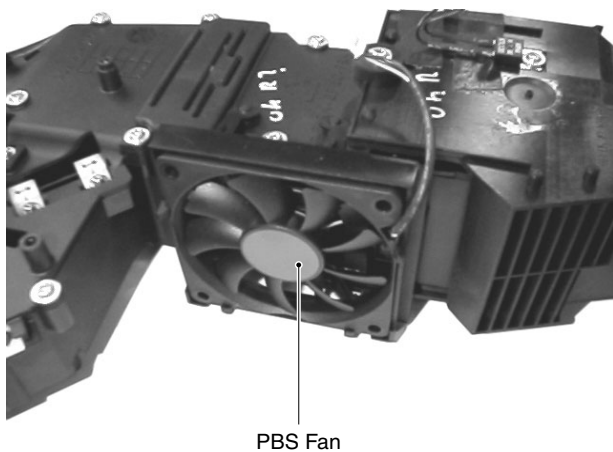

Fig. 15
1. Mounting position of PCS fan (See Fig. 15).